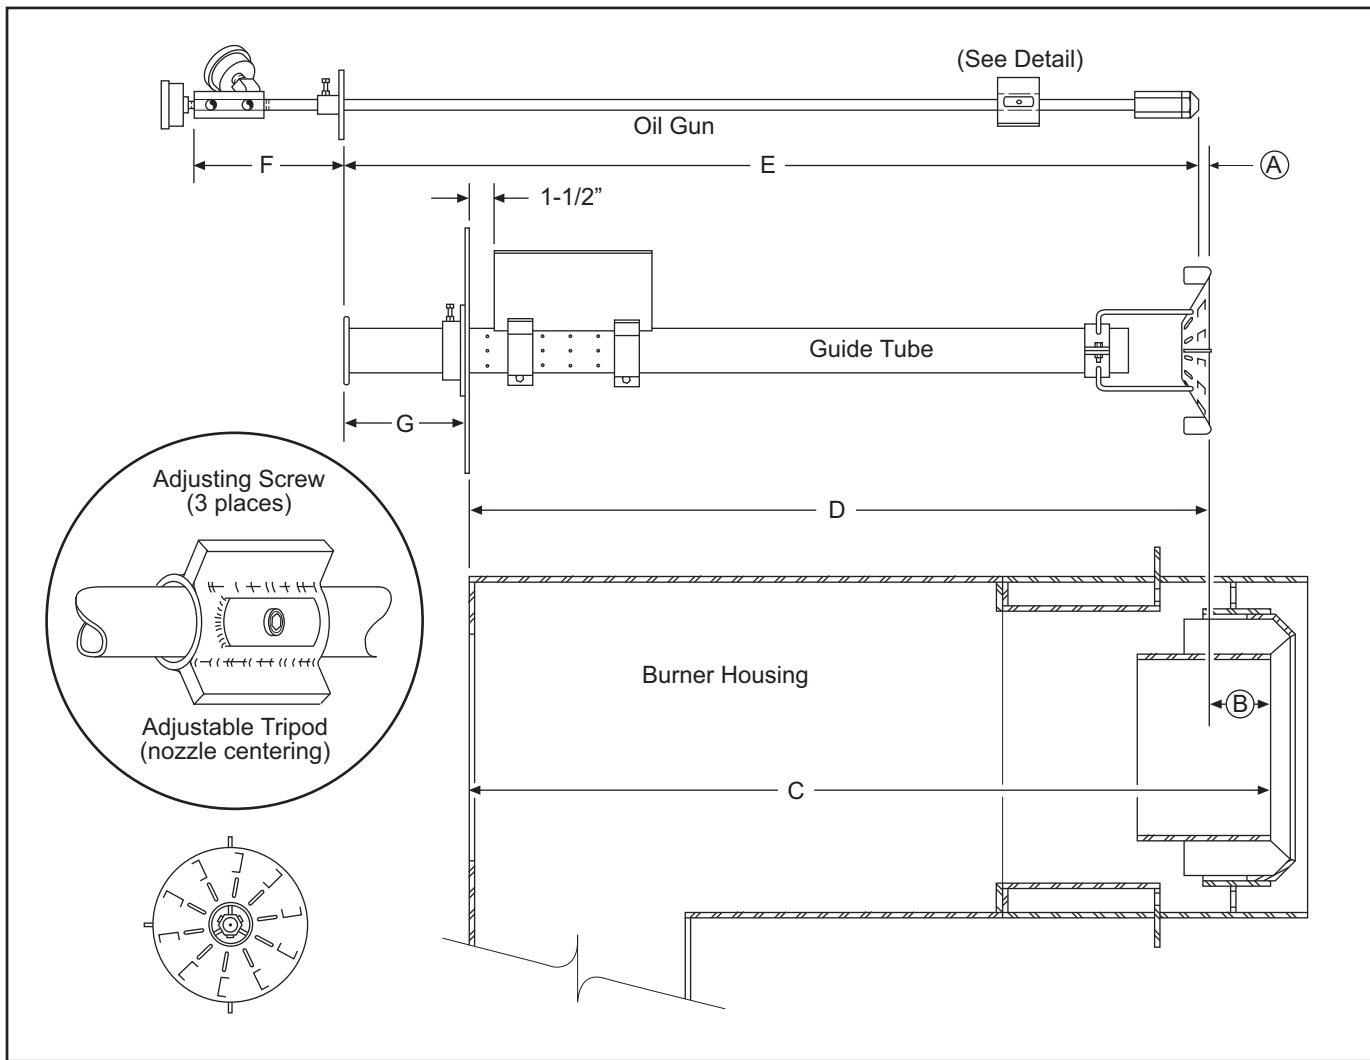

Figure 5-1B Dimensioning Detail for Oil Drawer Assembly with Quick Draw Oil Gun
3. Determine the value of dimension **(B)**, then check for this dimension. If adjustment is necessary, refer to Figure 5-1B and measure to obtain dimensions C and D. The **(B)** dimension is the difference between dimensions C and D.
4. See Figure 5-1B. Check concentricity of air diffuser center hole with oil nozzle by measuring from nozzle body (or nozzle adapter) to inside of hole at three or four equidistant points.